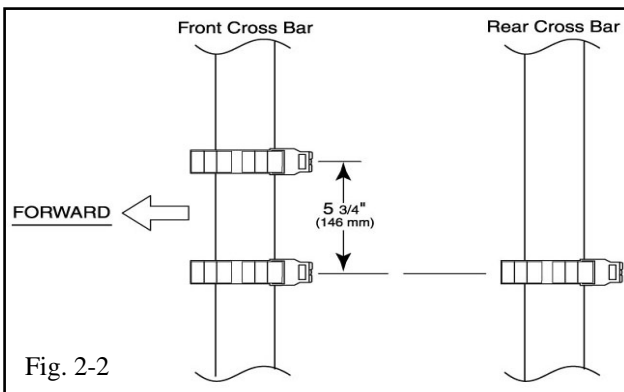

Fig. 2-2
-  (a) Adjust the position of the Adaptor Assemblies so that they are 5.75" (146 mm) apart center to center on the Front Cross Bar. (Fig. 2-2)
- (1) The Adaptor Assembly on the Rear Cross Bar should be in line with the Adaptor on the Front Cross Bar that is closest to the outside of the vehicle. (Fig. 2-2)